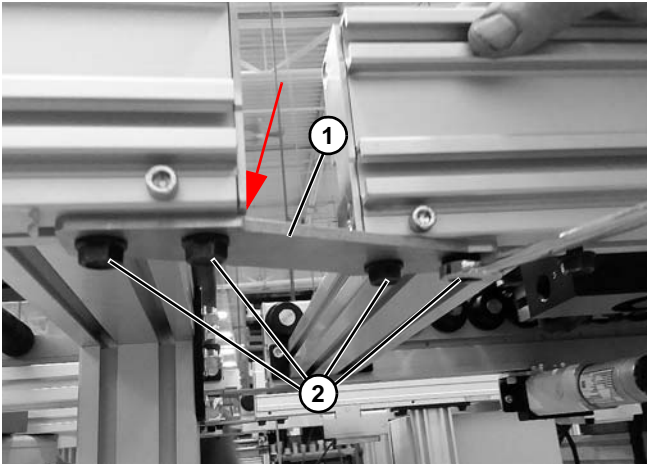

Figure 6
2. Install tie bracket (**Figure 6, item 1**) with four bolts (**Figure 6, item 2**).
Verify straight of bracket is aligned with end of conveyor. See red arrow (**Figure 6**).